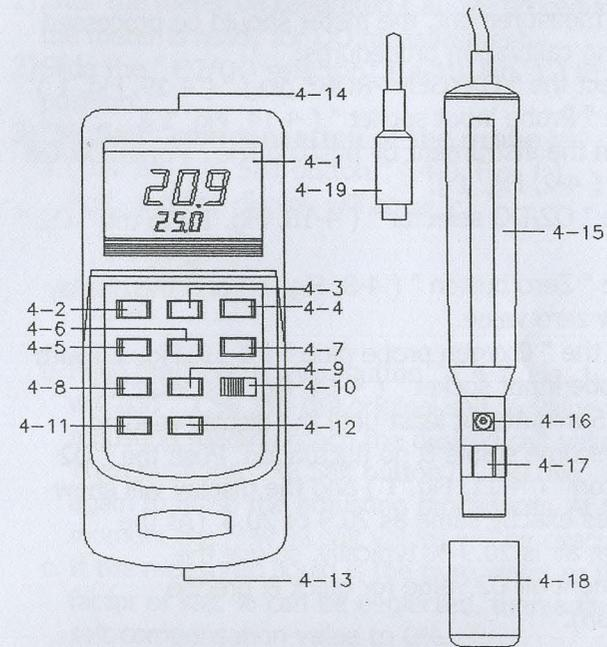

Fig. 1
- 1) Disconnect the " OXYGEN PROBE plug " ( 4-19, Fig. 1 ) from the " Probe input socket " ( 4-14, Fig. 1 ).
- 2) Power on the instrument by pushing the " Power Off/On button " ( 4-2, Fig. 1 ).
- 3) Slide the " O2/DO selector " ( 4-10, Fig. 1 ) to the " O2 " position.
Push the " Zero button " ( 4-8, Fig. 1 ) and the display will show zero value.
- 4) Connect the " Oxygen probe plug " ( 4-19, Fig. 1 ) with the " Probe input socket " ( 4-14, Fig. 1 ). Wait for approx. 5 minutes at least until the display reading values become stable & no fluctuation. Push the " O2 Cal. button " ( 4-11, Fig. 1 ) and the display will show the values exactly same as 20.9 or 20.8. (As the oxygen in air is 20.9 % typically, so use the environment air O2 value for quick & precise calibration).
- 2) Slide the " O2/DO selector " ( 4-10, Fig. 1 ) to the " DO " position.
- a. Push the " % Salt button " ( 4-9, Fig. 1 ) first, and the display will show. :
- b. Push the " Factor Adj. button " ( 4-7, Fig. 1 ) once will add " 1 % " to the original salt % value until the adjusting reading reach the desired salt values. Then push the " % Salt button " ( 4-9, Fig. 1 ) again to finish the adjusting procedures. At this moment the new % salt values will be executed.
- a. Push the " MT ( Height) button " ( 5-12, Fig. 1 ) first, then the display will show
- b. Push the " Factor Adj. button " ( 4-7, Fig. 1 ) once will add " 100 meters " to the original height values until the adjusting reading reach the desired height values ( meters ). Then push the " MT ( Height) button " (4-12, Fig. 1) again to finish the adjusting procedures. At this moment the new height values (display unit is the " meters ") will be executed.
- 2)Slide the " O2/DO selector " ( 4-10, Fig. 1 ) to the " O2 " position.
- \* Push the " °C/°F button " ( 4-4, Fig. 1 ) once to select measuring unit in °C or °F.
During the measurement, Push the " Data Hold button " ( 4-3, Fig. 1 ) will hold the display values & LCD will show the " D.H " marker.
- \* The DATA RECORD function displays the maximum, minimum and average readings. To start the DATA RECORD function, press the " Memory Record button " ( 4-5, Fig. 1 ) once. " REC " symbol will appear on the LCD display.
- Push the " Memory CALL button " ( 4-6, Fig. 1 ) once, the " Max " symbol along with the maximum value will appear on the display.
To de-activate this feature, select the memory record function during measurement by pressing the " RECORD " button ( 4-5, Fig. 1 ).